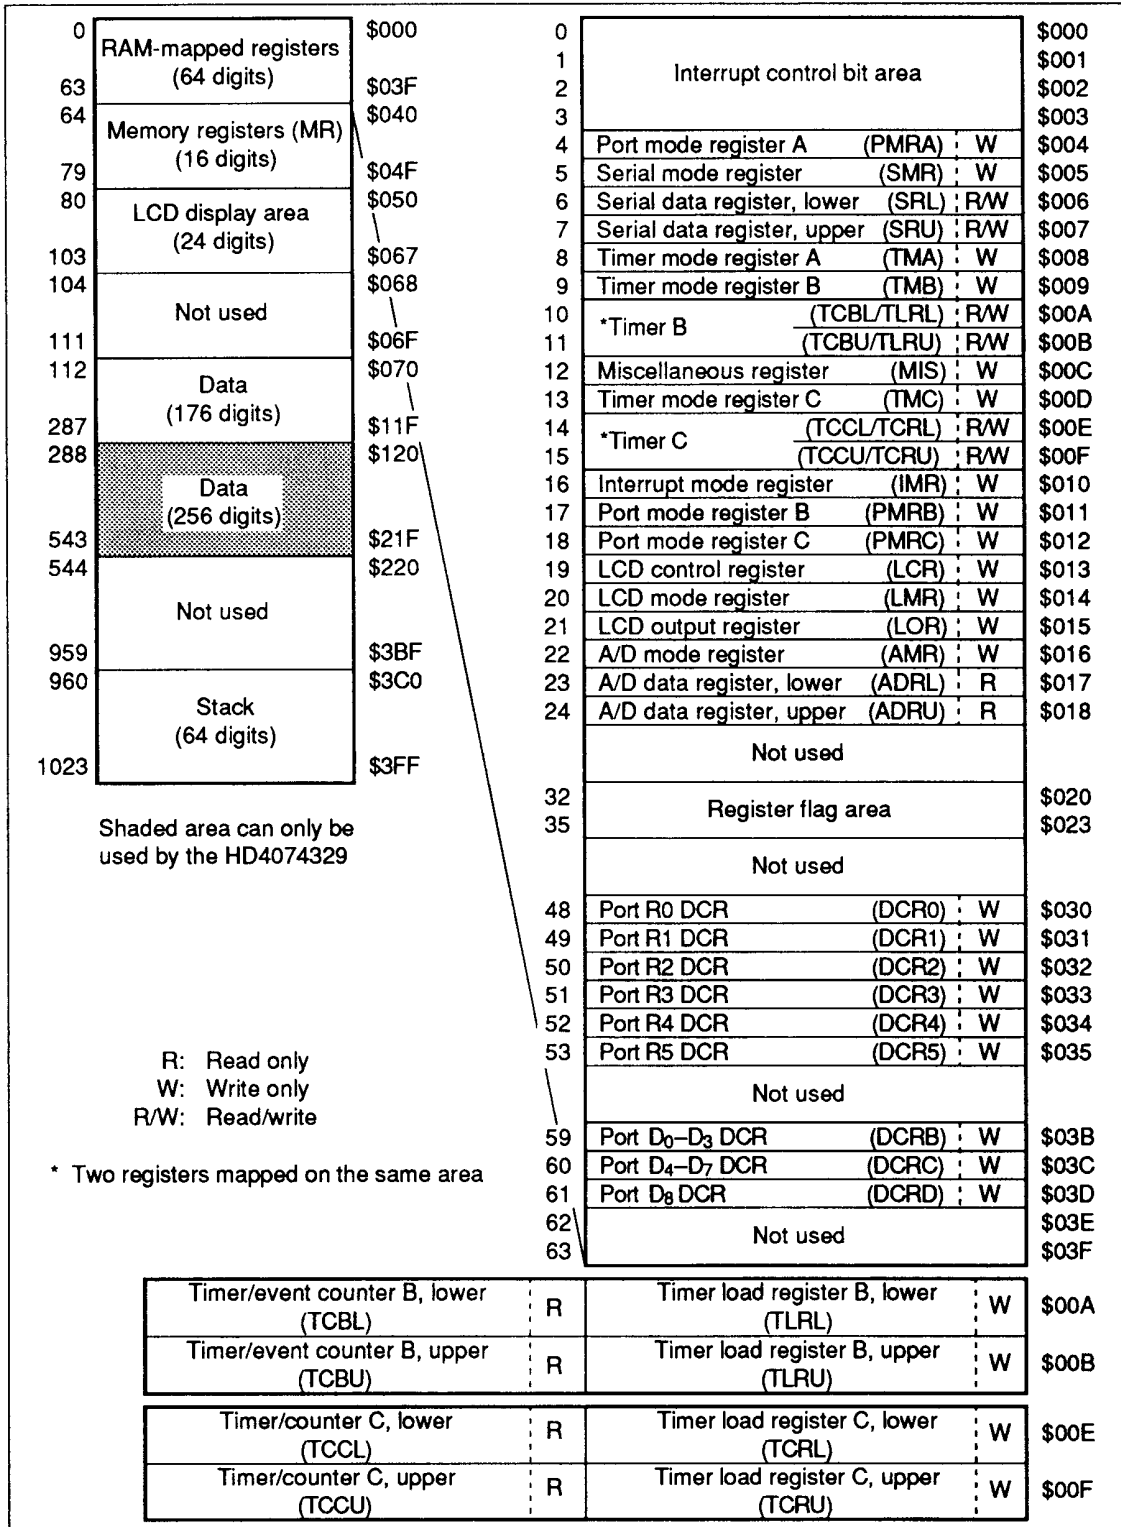

Figure 2 RAM Memory Map
The MCU contains a 256-digit × 4-bit (HD404328) or 512-digit × 4-bit (HD4074329) RAM area consisting of a data area and a stack area. In addition, interrupt control bits and special registers are mapped onto the same RAM memory space outside this area. The RAM memory map is shown in figure 2 and described below.
**Special Function Register Area (\$004–\$01F, \$024–\$03F):** Used as mode registers for external interrupts, serial interface, and timer/counters, and as data registers and as data control registers for I/O ports. As shown in figure 2, these registers can be classified into three types: write-only, read-only, and read/write. The SEM, SEMD, REM, and REMD instructions can be used for the LCD control register (LCR), but RAM bit manipulation instructions cannot be used for other registers.